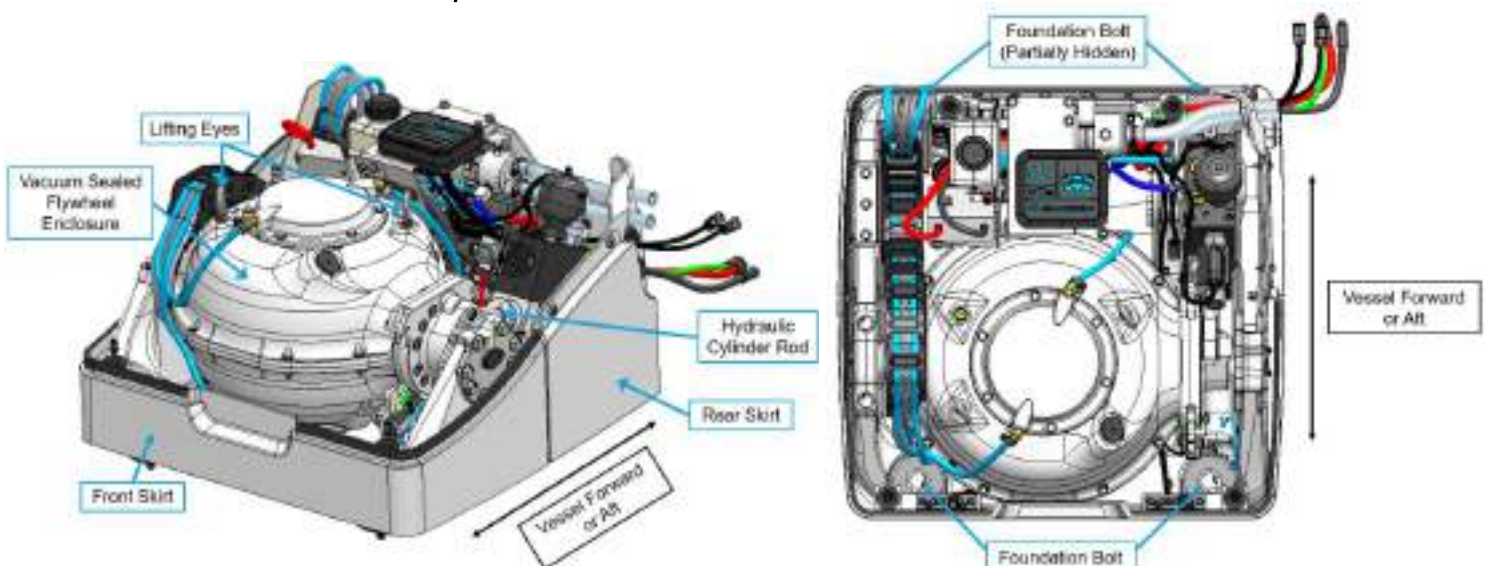

Figure 1: Seakeeper 1 Components – Isometric (left) / Top-Down (right)
3. While handling / installing the Seakeeper assembly, protect exposed hydraulic brake cylinder rods (see Figure 1) from scratches or damage as this could lead to premature seal failure and oil leaks.